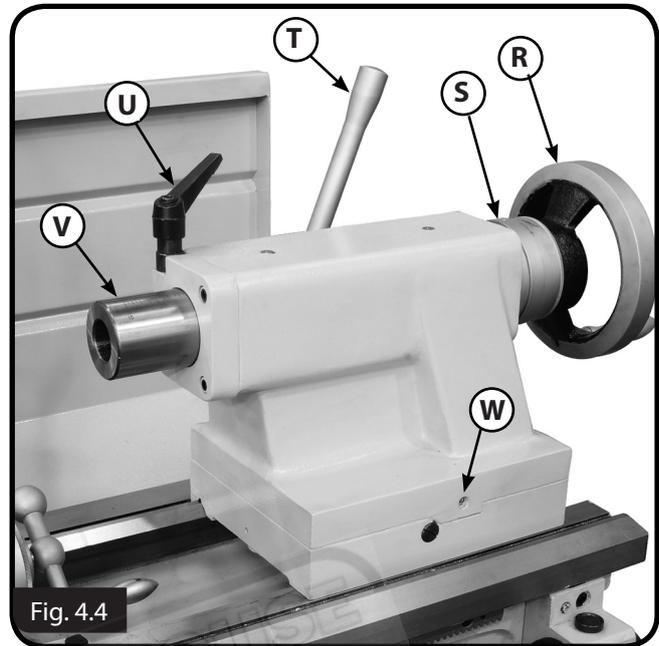
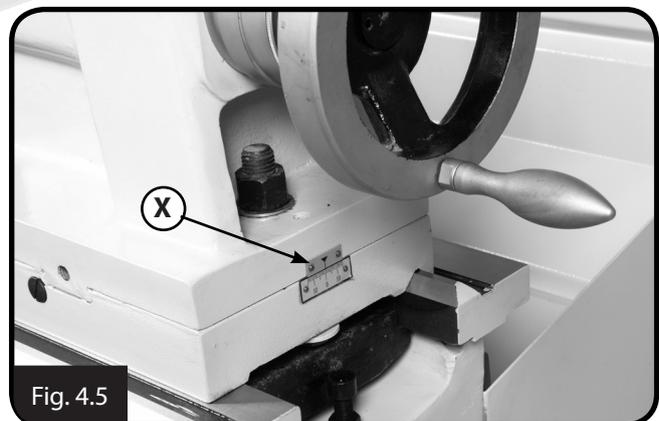

Fig. 4.4
Fig. 4.5
TAILSTOCK (FIG.4.4)
- X. Offset Scale:** Indicates the relative distance of tailstock offset from the spindle centerline. (Fig. 4.5)
The tailstock is typically used to support long workpieces by means of a live or dead center. It can also be used to hold a drill or chuck to drill holes in the center of the end of a part. Custom arbors and tapers can also be cut on your lathe by using the offset tailstock adjustment screws (W in Fig. 4.4)
Note: The marks on the indicator on the end of the tailstock (Fig. 4.5) are only a guide. For a precise offset, use a dial indicator to check while adjusting the screws that are located on both sides of the tailstock. (W in Fig. 4.4)
If the test stock is larger at the tailstock end, then adjust the tailstock toward the front of the lathe 1/2 the distance of the difference. (See Fig. 4.4 for adjustment screws)